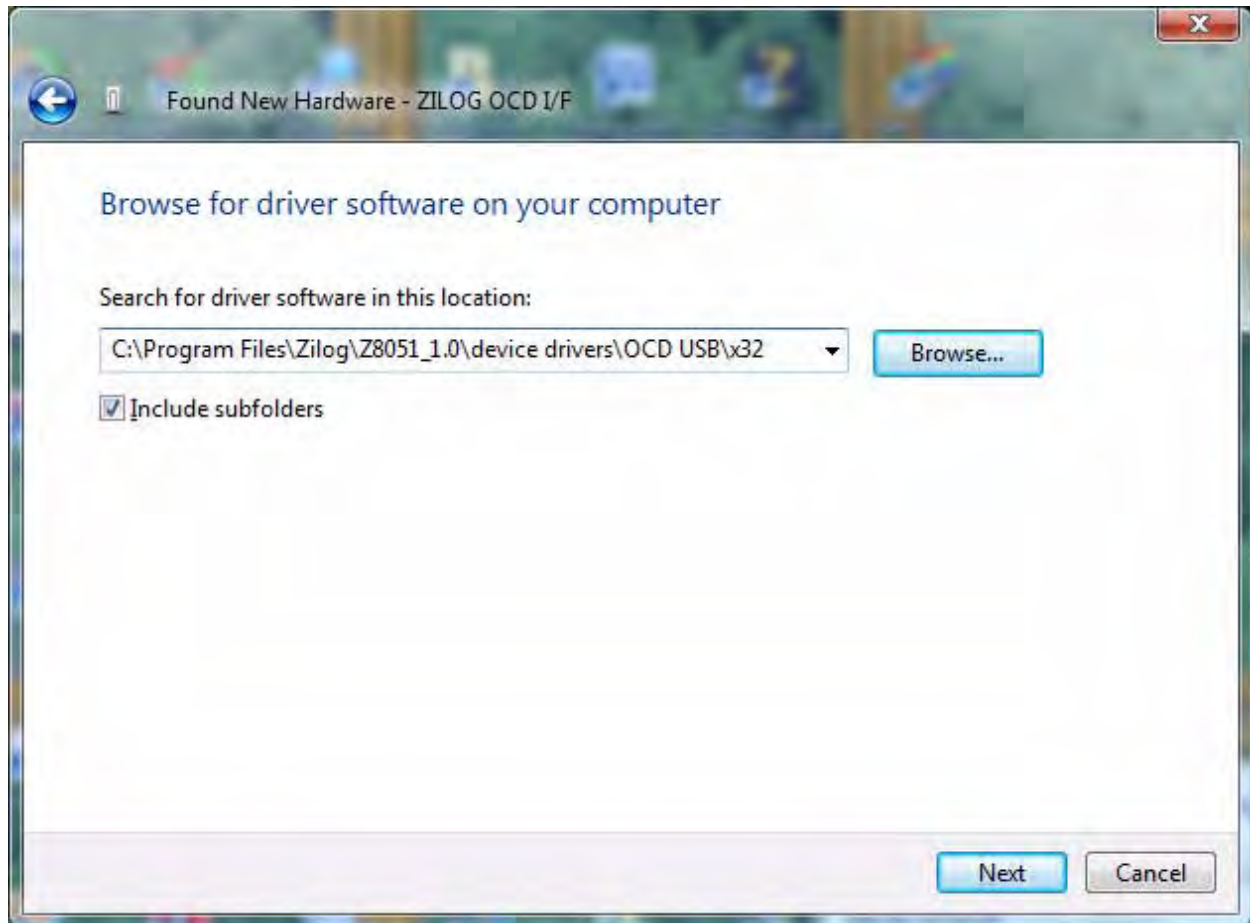

Figure 3. Browse For Driver Dialog, Windows Vista
3. Select **Browse my computer for driver software (advanced)** to display the dialog shown in Figure 3, which prompts you to key in or browse for the location of the .inf file. Depending on the type of computer you use (32-bit or 64-bit), use the **Browse** button to navigate to one of the following paths, then click the **Next** button.